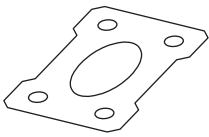

Fig. 17.20 First example – 2D outlines in 3D space – the outline in the **Isometric** view
4. Place the drawing area in the **ViewCube/Isometric** view (Fig. 17.20).